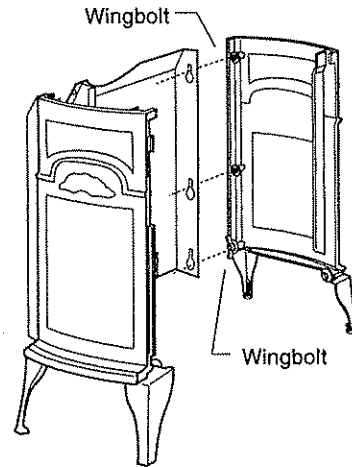
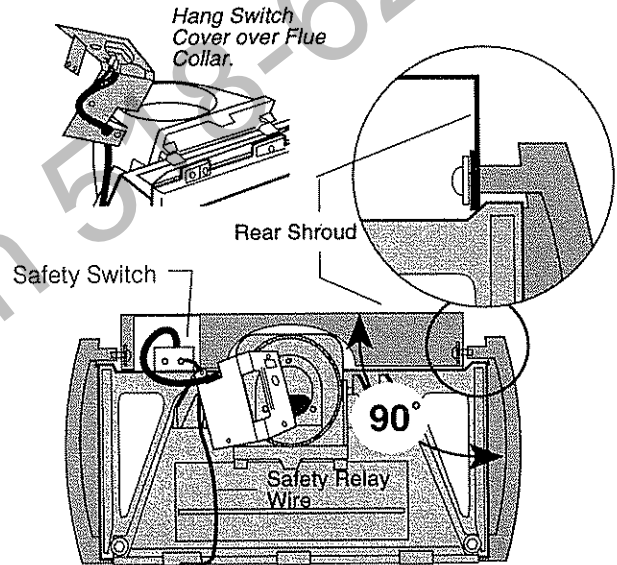
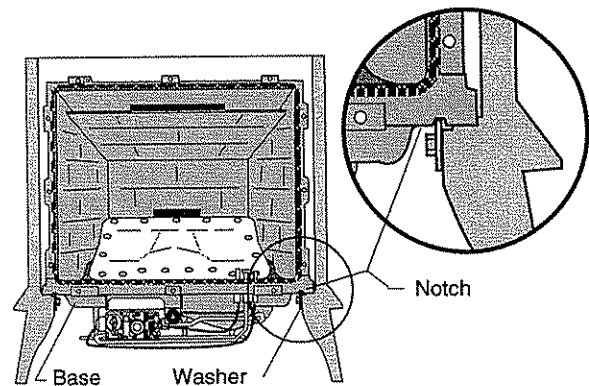

Figure 16. Secure Right End to the Rear Shroud.
Figure 17. Align both sides with the rear.
Figure 18. Install the Firebox Assembly. Be sure that the two large front washers engage the notches on both ends of the Base.
2. Repeat Step 1 to attach the Right Side Plate to the Rear Shroud. Fig. 16. Move this assembly close to the stove's final position. Align the two side plates to be perpendicular to the Back Panel as in Fig. 17.
3. Hang the Switch Cover over the flue collar rim, as in Fig. 17, to keep it out of the way while installing the firebox. **DO NOT PULL ON THE SAFETY RELAY WIRE LOCATED OVER THE FIREBOX.** Lift the DV25 firebox assembly as a unit and slide it back to position it within the shell. The base of the firebox should rest on the side support shelves as in Figs. 17 and 18. The large washer at the forward leg of each Side Plate should engage the corresponding notch in the underside of the firebox base as shown in Fig. 18. Properly positioned, the firebox will be level and locked in place. If not, adjust the levelling screw in the foot of each leg to keep the entire unit level.